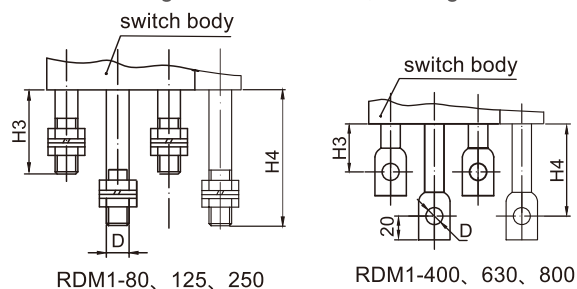

Fig 8 RDM1 Rear wiring installation dimension
RDM1-80~800A Front wiring overall and installation board hole-opening dimension, see Fig. 12, Fig. 8 and table9
6.2 Rear wiring overall dimension, see Fig 8 and Table 10.